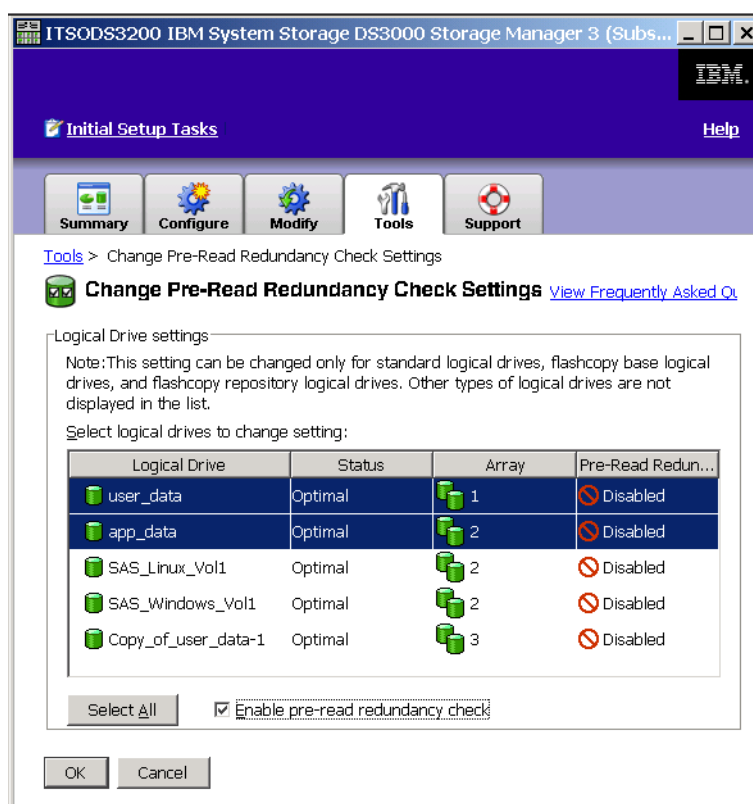

Figure 12-26 Select LUNs for pre-read redundancy check
2. Select the logical drives that are required for a pre-read redundancy check, as shown in Figure 12-26. You can use the Ctrl or Shift key to select some of the list, or click **Select All** to select all the LUNs. Select the **Enable pre-read redundancy check** check box and click **OK** to activate this feature.